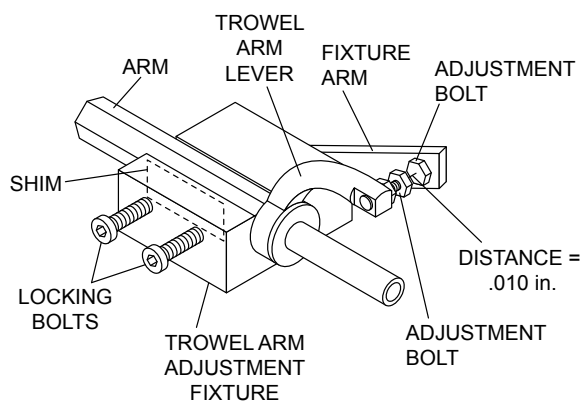

Figure 47. Trowel Arm Adjustment Fixture Components
3. Unscrew the locking bolts on the adjustment tool and place the trowel arm into the fixture channel as shown in Figure 47. A thin shim may be required to cover the blade holes on the trowel arm. Make sure to align the trowel adjustment bolt with the fixture adjustment bolt.
5. Adjust the bolt "distance" shown in Figure 47 to match one of the arms. The other arms will be adjusted to match this distance.